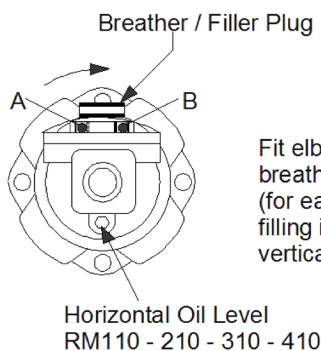
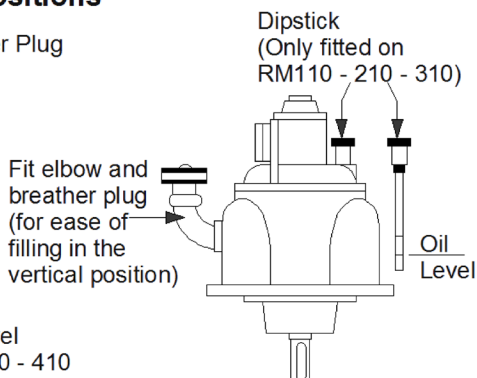

Fig. 1
Fig. 2
The motor is normally mounted in a horizontal position with the filler / breather plug towards the top (Fig. 1) It may also be mounted with the shaft vertically downwards (Fig. 2). As supplied the motors have been run up and tested using protective oil and then drained for transit. It is vital that each motor is re-filled to the correct oil level as shown below. The RM 110 - 310 motors have a dipstick for vertical mounting (Fig. 2) and the lower mark on this dipstick provides the oil level. Oil levels are achieved on motors in the horizontal position by filling to the plugs marked 60 (RM 110-410 models) and plug 26 (fitted in housing 3 RM510-610 models). (numbers indicate parts on exploded view) The vertical oil level position for the RM410, RM510 and RM610 motors is a combined horizontal drain and vertical level plug (part number 26) To fill motors with oil remove the combined breather and oil filler plug part number 46. Ensure breather plug is in the vertical position. It may be necessary to fit an elbow between the breather plug and the motor (see Fig. 2).
Mount motor in operating position. Check oil level, (as seen on Fig. 1). Before connecting to the air supply blow out the air lines to remove any loose scale, swarf or abrasive dust which may be present. Remove the red plastic dust-caps and the 'O' ring seal (45). For unidirectional operation check the required direction of rotation and connect the air supply line to the appropriate port on the inlet / exhaust adaptor plate (72) leaving the other port open or pipe downwards if exposed to the atmosphere. The motor should not be allowed to race. Always operate within the catalogue speed curves.